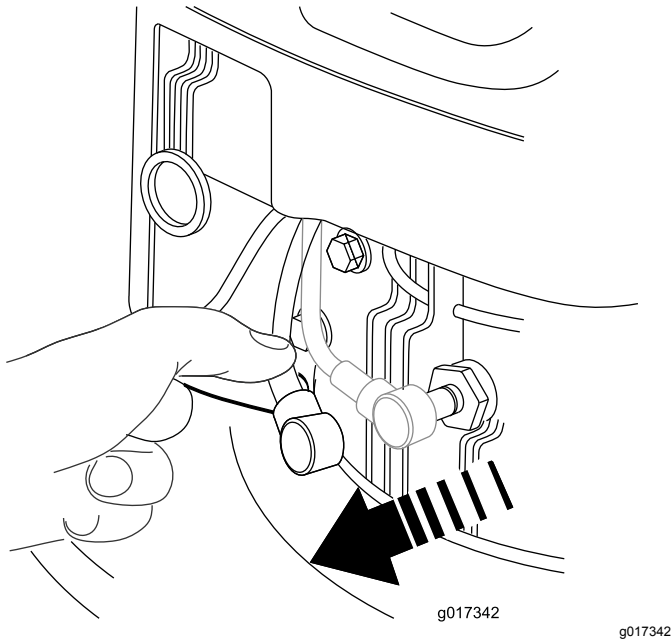

Figure 19
2. Disconnect the spark plug wire from the spark plug (Figure 19) before performing any maintenance procedure.